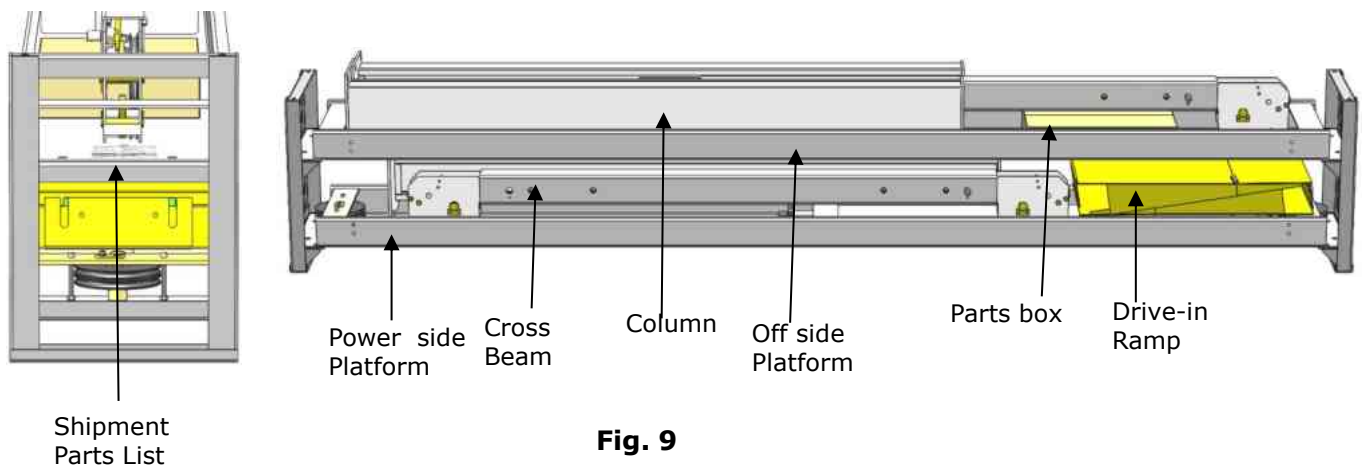

Fig. 9
2. Move the lift aside with a fork lift or hoist, open the package and check the parts according the shipment list. (See Fig. 9).